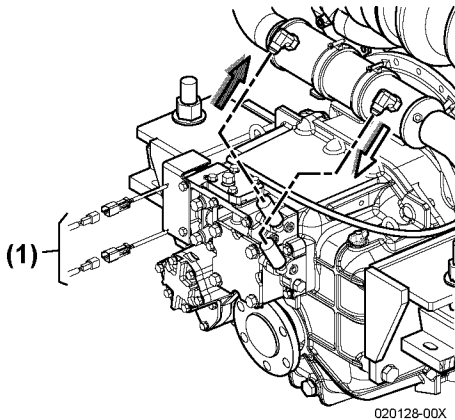

Figure 5
- Ensure the ECU connectors (**Figure 5, (1)**) are tight.